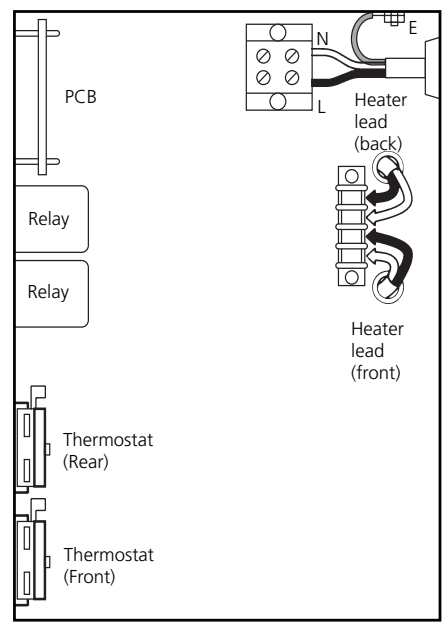

Fig 9 Terminations for A4000D
- 25 Pass the electric cable of the heater up into the electrical control compartment via the orifice available. Push the spade terminals onto the CORRECT PINS of the connecting strip (refer to fig. 9).